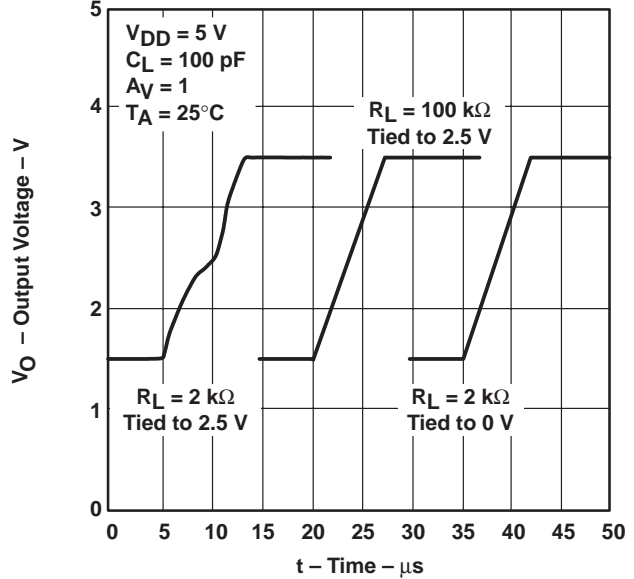

Figure 38
- Where the load is referenced. When the load is referenced to either rail, this condition does not occur. The distortion occurs only when the output signal swings through the point where the load is referenced. Figure 38 illustrates two 2-k Ω load conditions. The first load condition shows the distortion seen for a 2-k Ω load tied to 2.5 V. The third load condition in Figure 38 shows no distortion for a 2-k Ω load tied to 0 V.
- Load resistance. As the load resistance increases, the distortion seen on the output decreases. Figure 38 illustrates the difference seen on the output for a 2-k Ω load and a 100-k Ω load with both tied to 2.5 V.